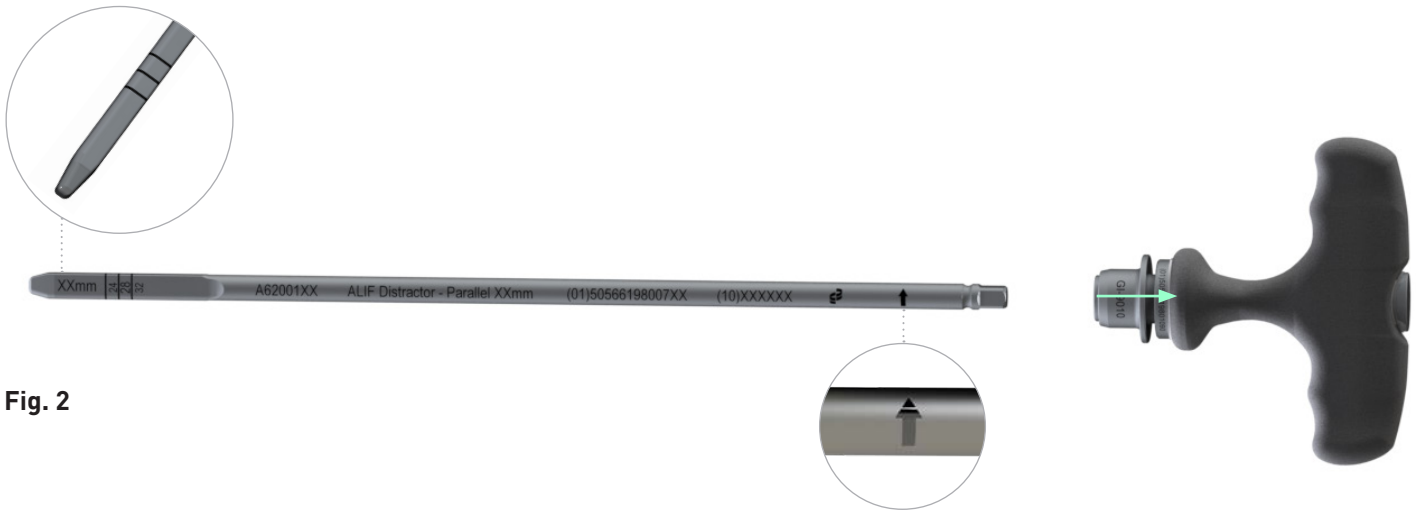

Fig. 2
- Select an appropriately sized Distractor (Parallel; 6, 8, 10, 12mm) and attach it to the T-handle (Fig. 2).
- The Distractors are radiused on one side (Fig. 2 magnification) to prevent endplate disruption and therefore must be rotated clockwise. The shaft is laser marked with an arrow to confirm the direction of rotation.